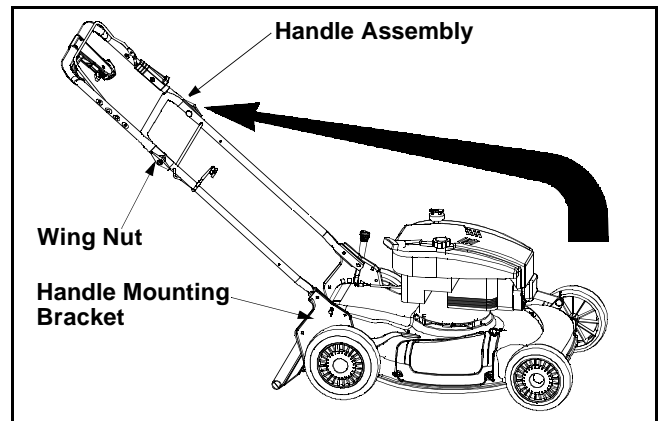

Figure 2
- Lift up and pull back on the upper handle to raise the handle into the operating position. Make certain the lower handle is seated securely into the handle mounting brackets. Tighten the wing nuts on each side of the handle (carriage bolts must be seated properly into the handle). See Figure 2.